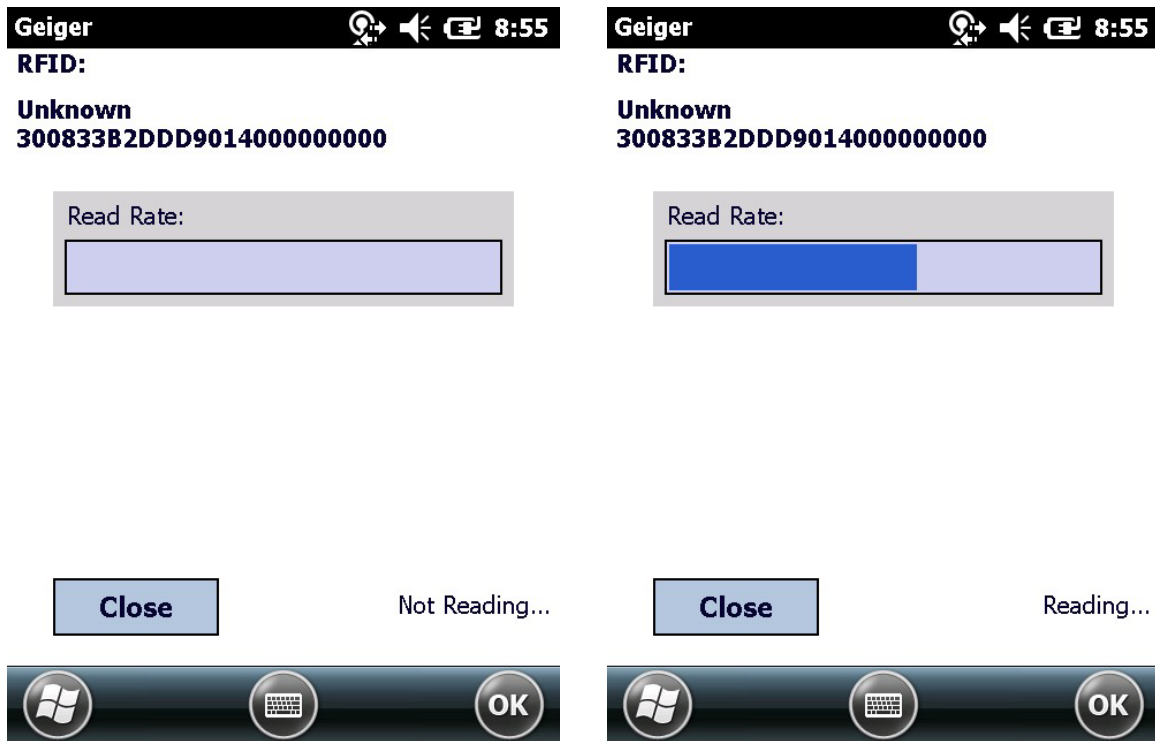

Figure 4-11 *Geiger Counter Read Rate*
2. Tap one of the missing items. The Geiger Counter screen opens as displayed in Figure 4-11.